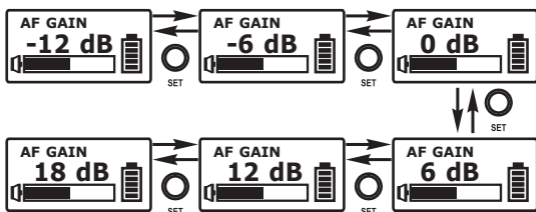

Fig. 9
5. AF GAIN: Setup of Input Sensitivity, Fig. 9.
- (A) AF Gain can be changed from -12dB ~ 18dB, in 6dB steps.
- (B) Press MODE button to access AF GAIN and the parameters start blinking and is ready to be changed.
- (C) Press SET button to change. Every push of the SET button increases the dB value by 6dB to a maximum of 18dB.
- (D) The higher the AF gain is, the lower the dynamic range for input signal will be and it will increase noise and feedback chances.
- (E) Set AF Gain to 0dB for electric guitar. The maximum input signal strength is $2V_{rms}(6dBV)$.